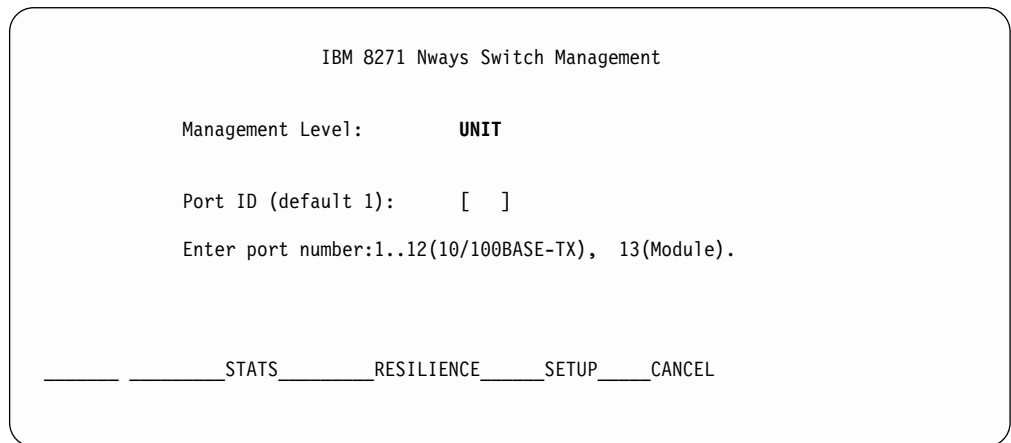

Figure 152. Nways Switch Management Menu
18. Select **SWITCH MANAGEMENT**. Press **ENTER**. Figure 152 Displays.